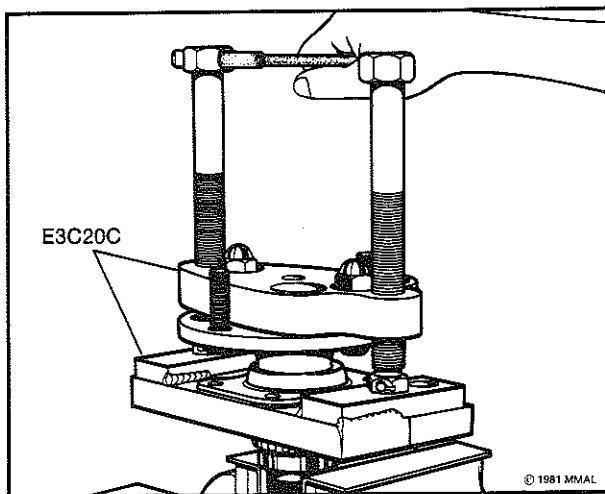

Fig. 8—Dismantling axle shaft
- (2) Assemble the bearing remover (Special Tool) with the jaws of the puller between the seal and the bearing cone, **ensuring** that the pressure of the tool is applied to the **shoulder** of the cone **not** upon the rollers or the sealing surface, refer Fig. 8.
- (3) Install the tool base to the axle flange nuts to direct the screw pressure upon the two pads of the jaws.
- (4) **Lubricate** the tool pusher screw **threads** and tighten sufficiently and evenly to force the bearing and retainer from shaft.